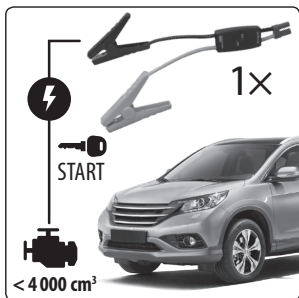

Fig. 1. Jumper cables
- Both devices also include: starting cables, USB cable adapter for charging/powering digital devices, 12 V car cigarette lighter cable and a power adapter for a 230 V power socket ~, see fig. 1 to 4: